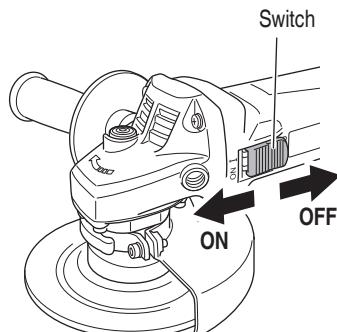

Fig. 3
- Turn the grinder "on". (Fig. 3) While holding the grinder firmly, use one finger to slide the switch to the "on" position.